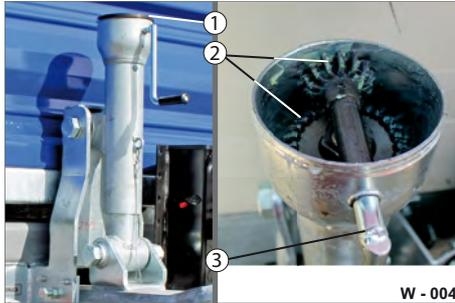

Fig. 4 Lubricating draw pipe height adjustment system
- ▶ Remove the cover (Fig. 4/1).
- ▶ Lubricate the gear wheels (Fig. 4/2) with grease.
- ▶ Crank the height adjustment system up and down with the crank (Fig. 4/3) - this distributes the grease.